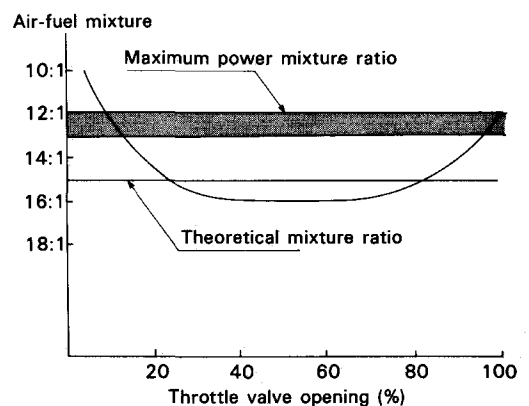

Fig. 1
2. Air-fuel mixture required by the engine (Fig. 1)
In reality, varying mixture ratios are required for the engine, depending on operating conditions. Although the required mixture ratio varies more or less with the type, the cooling efficiency, etc. of the engine, the mixture ratio shown in Fig. 1 is required for ordinary engines. In the high speed range, the ratio of about 12 to 13 grams of air for 1 gram of fuel produces the maximum output. However, in the case of an engine with low cooling efficiency, a somewhat richer mixture (10 to 12 grams of air against 1 gram of fuel) may be required to prevent seizure of the engine.